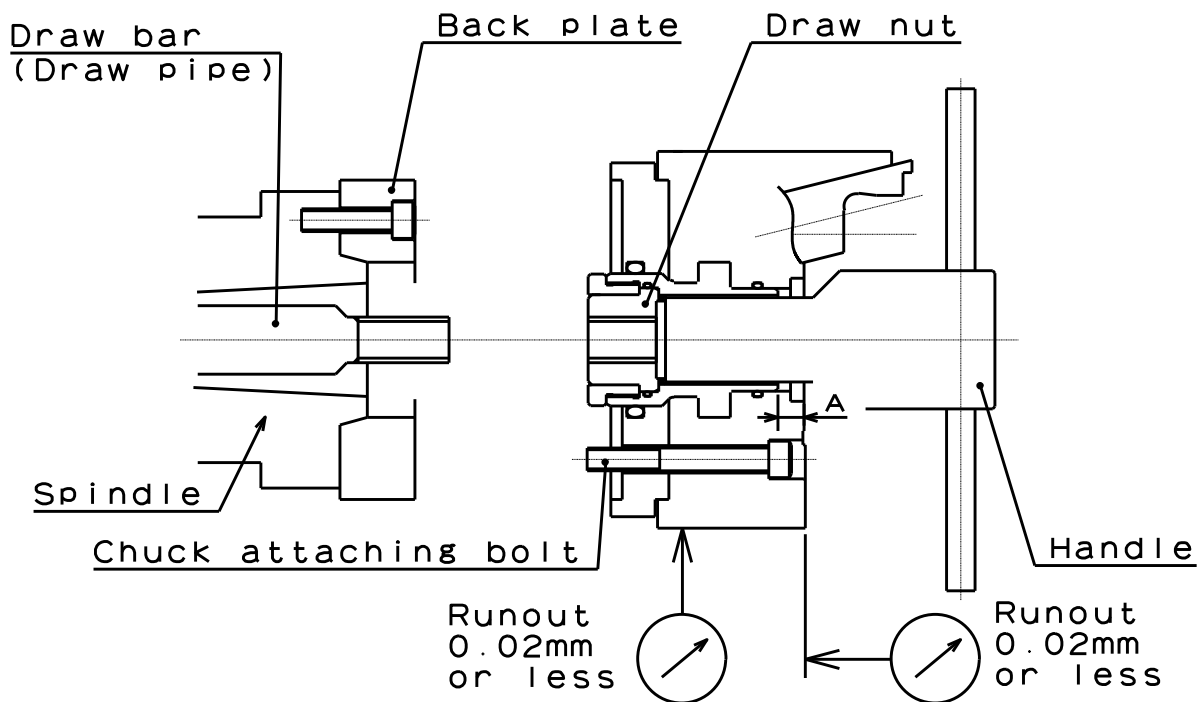

Fig.15
- Turn the draw nut counter-clockwise up to the full stop, and after this, turn it clockwise for about 270-360 degree to stop it at the position where ratchet hooks. Confirm that the dimension "A" is within the range shown Fig.15